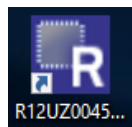

Figure 3. Desktop Icon
1. After installing the software, plug the RTKA-BDGSTKEV2Z board into a USB port on the computer and click the Renesas DAQ shortcut (created in "Loading the Software") on the desktop. Figure 3 shows the desktop icon.